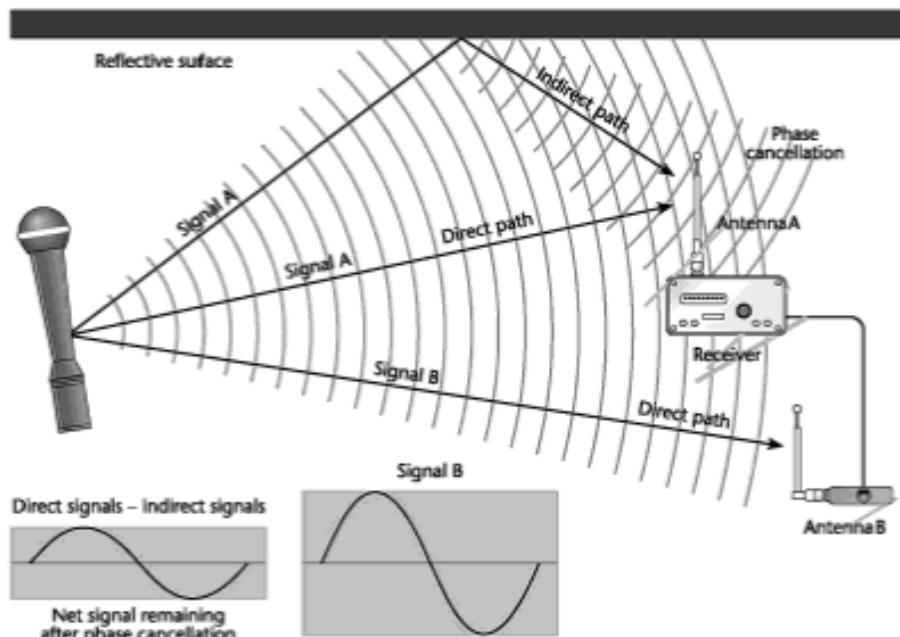

Figure 6-33 Diversity reception.
- Diversity reception**—A wireless microphone system transmits radio waves from a transmitter, through the air, to a receiver. Because the waves are transmitted line-of-sight, there is the danger that the radio waves will encounter obstructions en route to the receiver. Another potential hindrance to signal reception could result if the transmitter is out of range. The problem with multipath reception may be a third difficulty. Any of these problems creates a dropout or null in the transmission. *Dropout* is a momentary loss of the signal at the receiver. The technique used to deal with dropout is known as *diversity reception*. Basically, diversity reception ensures that the receiver can satisfactorily process an impeded signal from the transmitter (see Figure 6-33).